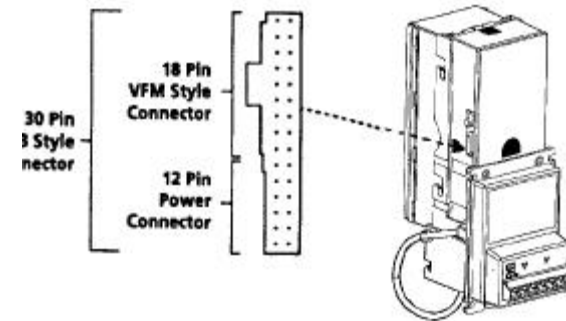

Figure 4
Note: These harnesses fit onto the male connectors located on the left side of the Bill Acceptor (see Fig. 4) and are designed to connect to the vending machine controller's or coin changer's Bill Acceptor interface harness. For further information on either interface harnesses or mounting kits, please contact your supplier.
3. Connect the VN2300 to the appropriate interface harnesses. (See Figure 4.) Forcing harness(es) into bill acceptor will cause pins to bend or break.